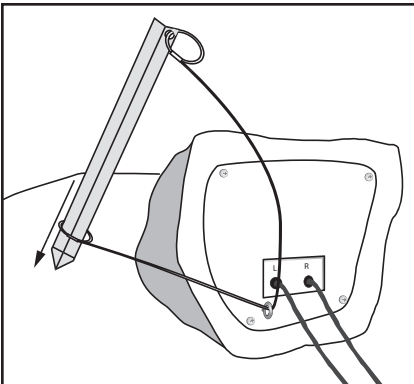

Figure 7c. Feed stake through cable.
3. Feed the spike through the loop in the cable (figure 7c).